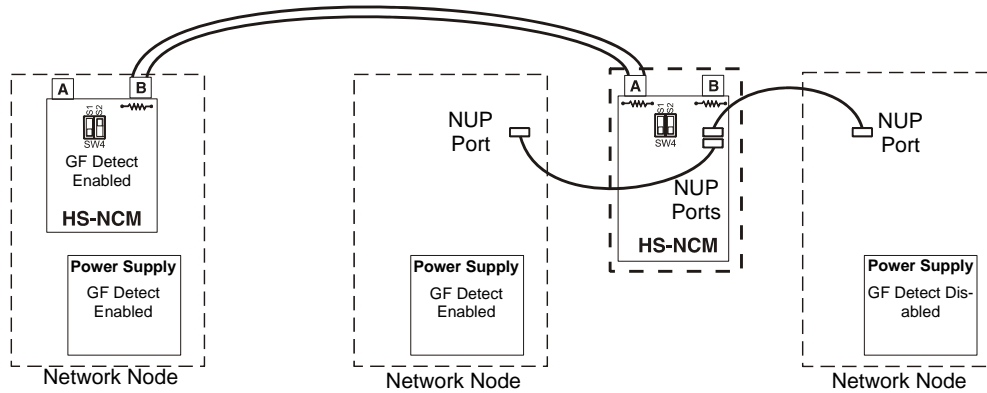

Figure 3.9 Shared HS-NCM Network Connection (EXAMPLE 5)
- EXAMPLE 5:** Example 4 above shows the HS-NCM shared by two network nodes. If the network wiring is being monitored by an adjacent node (refer to Figure 3.9), the Ground Fault switch (SW4) on the shared HS-NCM should be set to OFF. The power supply Ground Fault detection for each is dependent on the requirements of their respective network nodes.